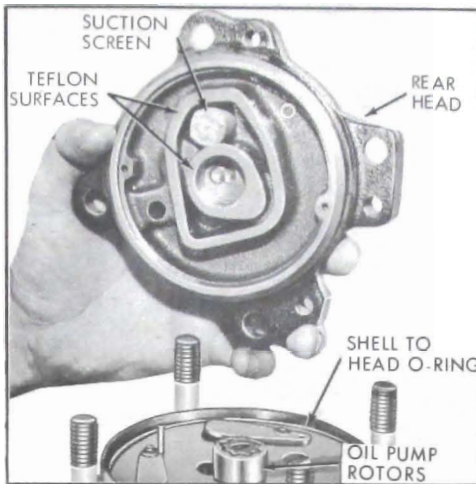

Figure 11-70—Rear Head Removal
**NOTE:** If teflon surfaces are damaged (see Figure 11-70), replace rear head. Clean or replace suction screen as necessary.